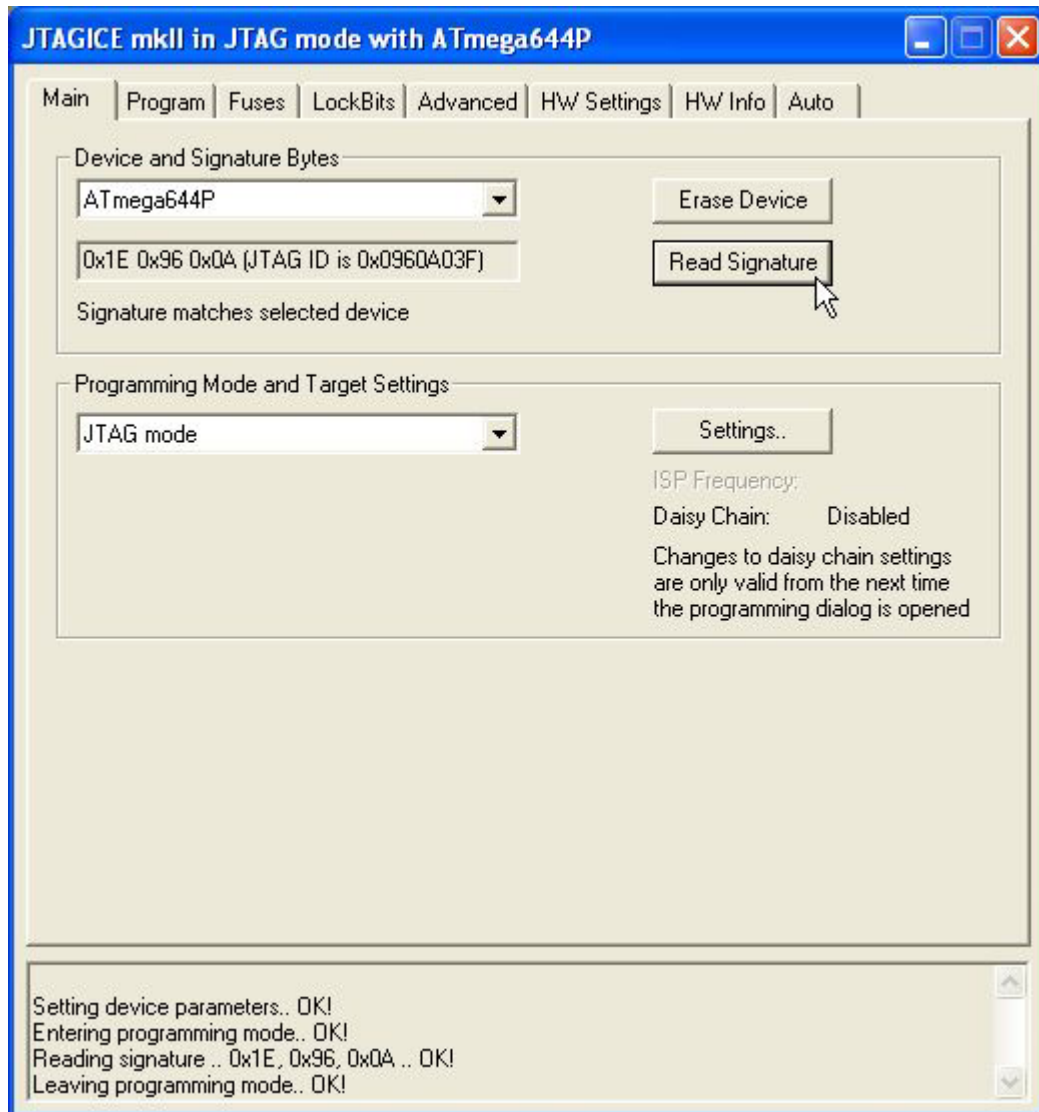

FIGURE D18: AVR STUDIO SETTINGS FOR JTAGICE MK II
- j) In the *Main* window below, select the *AT mega1284P* microcontroller and *JTAG mode* connection and push the bottom *read signature* in order to verify that the programmer is working properly, as it is shown in the figure D18.